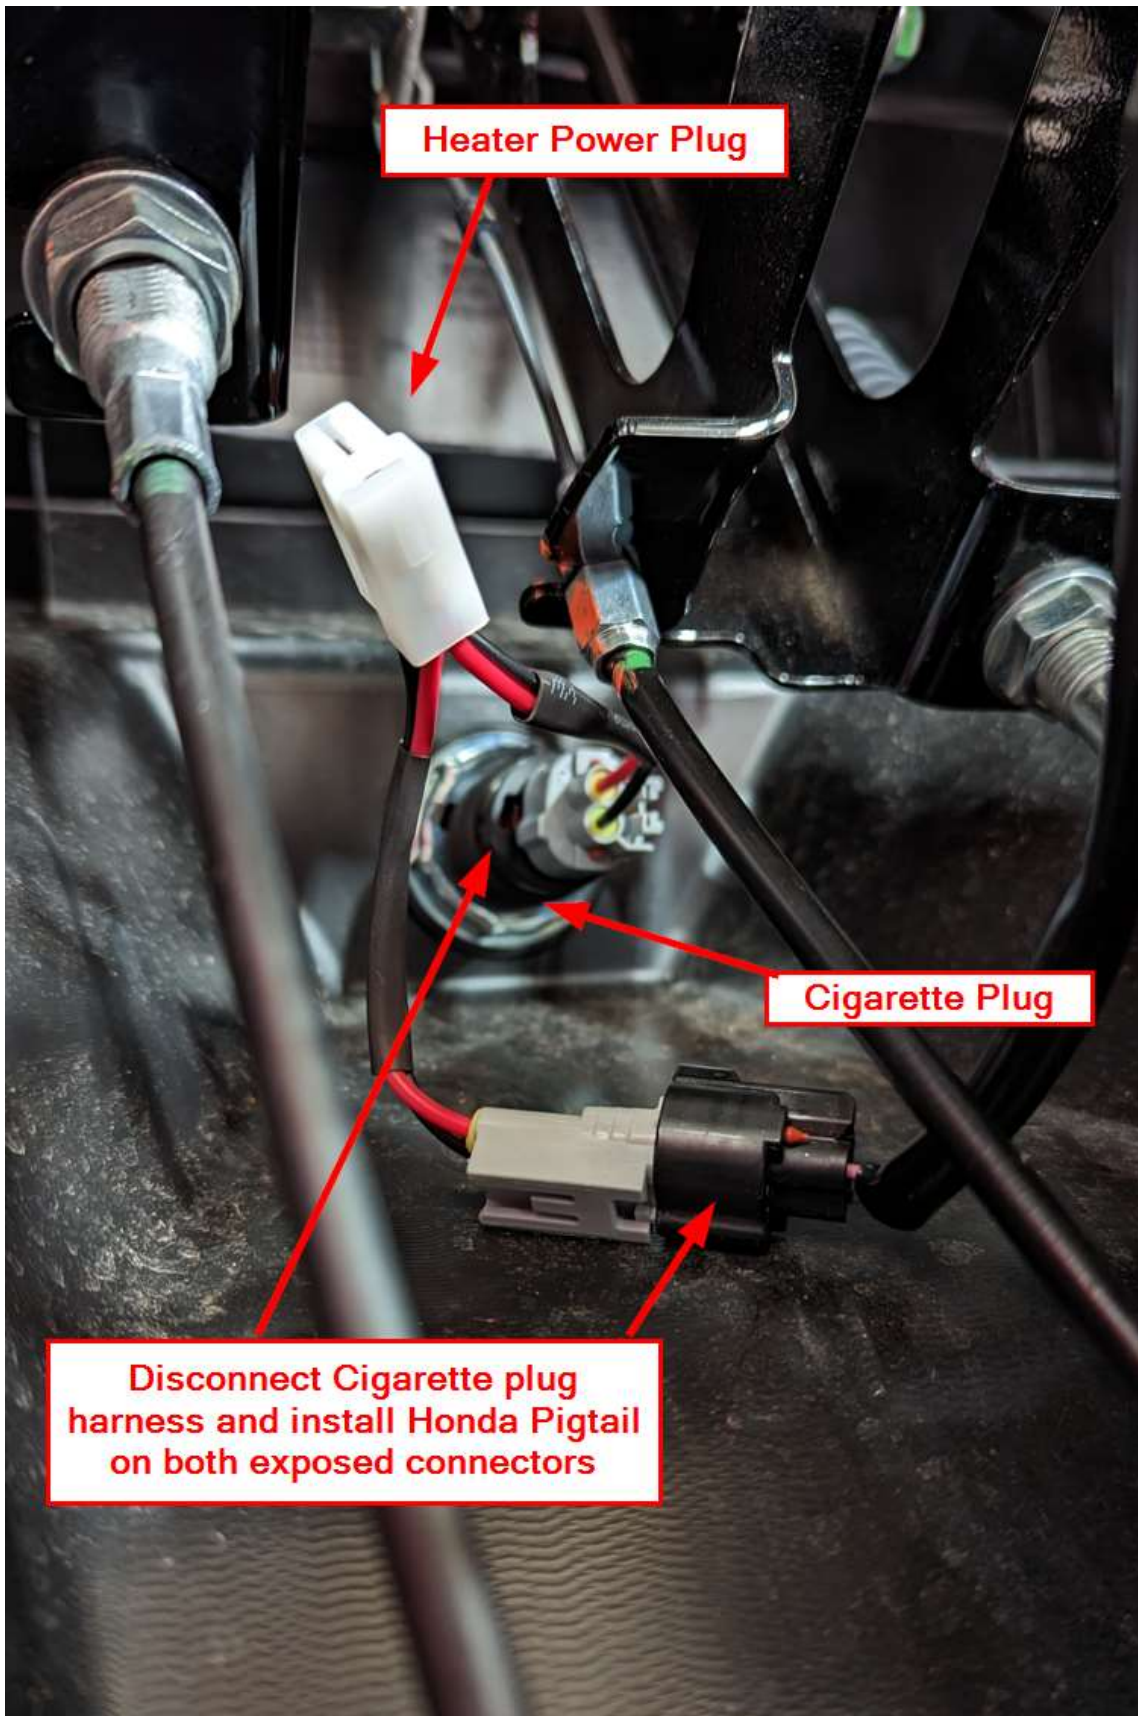

Figure 11
- b. Use the included Honda Wiring Pigtail and connect one end to the Cigarette Lighter. Connect the other end to the original Cigarette Lighter Plug as shown in Figure 11.